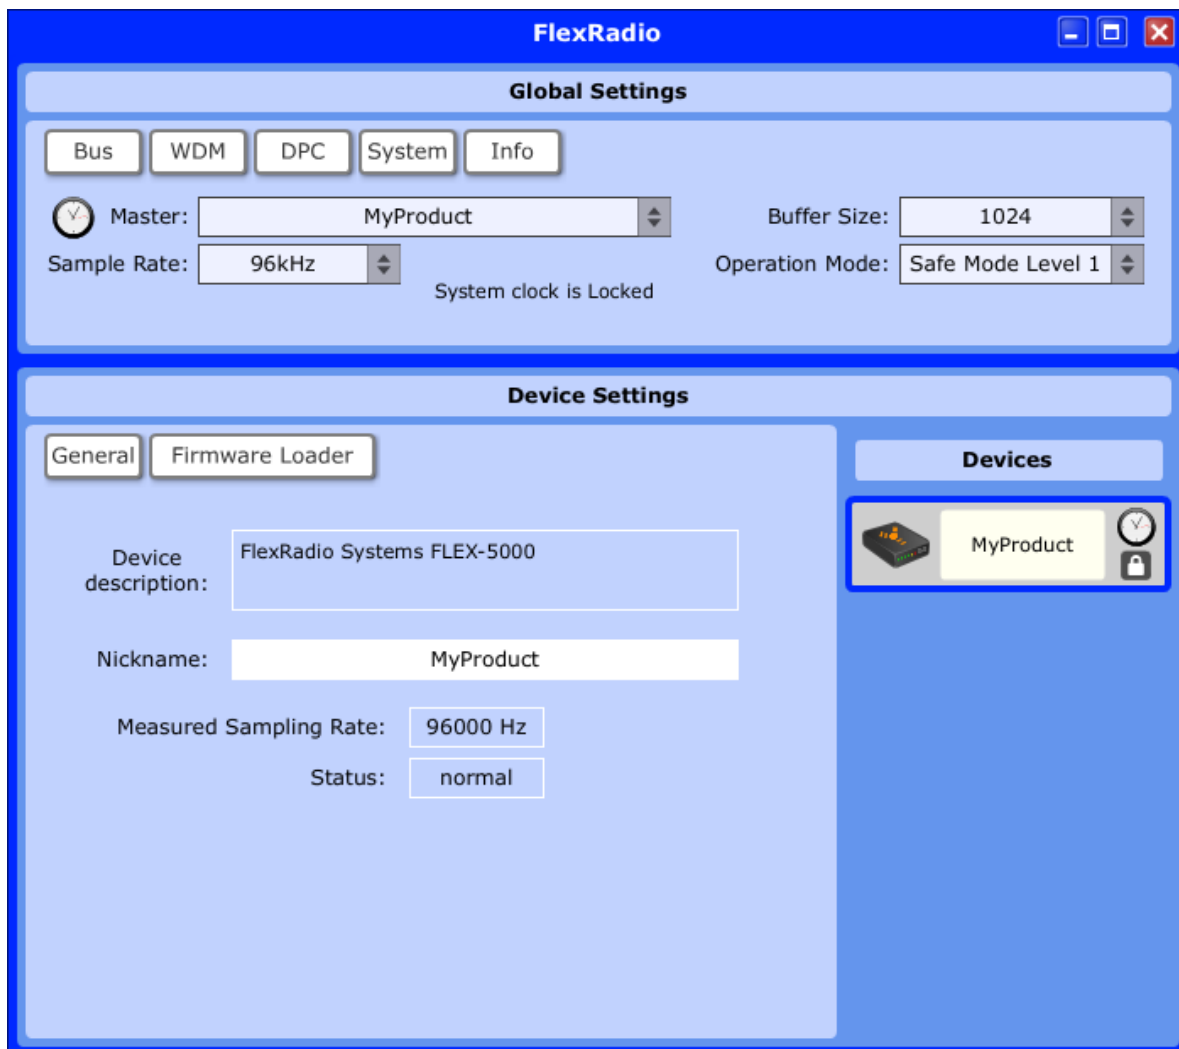

Figure 156: FlexRadio Driver Control Panel - Default View
The FlexRadio Driver comes with a Control Panel which enables you to verify and set various parameters. To open the Driver Control Panel make sure your FLEX-5000 is turned on and then double-click on the FlexRadio Driver's desktop icon you created during installation. Alternatively, click on Start → All Programs → FlexRadio Systems → FlexRadio. You will see the Control Panel as shown in Figure 156.
- ❑ **Master** displays the **Nickname** of your FlexRadio. The default **Nickname** is *MyProduct*, as shown in Figure 156 on page 179. (You can change this to any nickname you desire by clicking on the **Nickname** displayed in the lower **Device Settings** section).
The lower Device Settings section has two buttons which act as tabs: **General** and **Firmware Loader**. (see Figure 156 on page 179).
- ❑ **Measured Sample Rate** should equal the **Sample Rate** shown in the Bus Global Sections panel (see Figure 156).